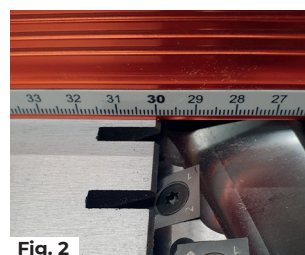

Fig. 2
- 9) Re-check the table level checking height of outfeed table in relation to the cutter block; "Drag test" (Fig. 2).